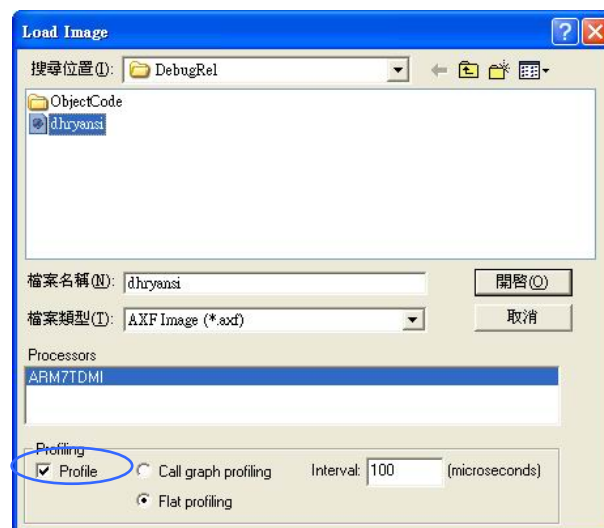

Figure 24. Load image with Profiling functionality.
- 1.2 Check the **Profile** checkbox, as shown in Figure 24.